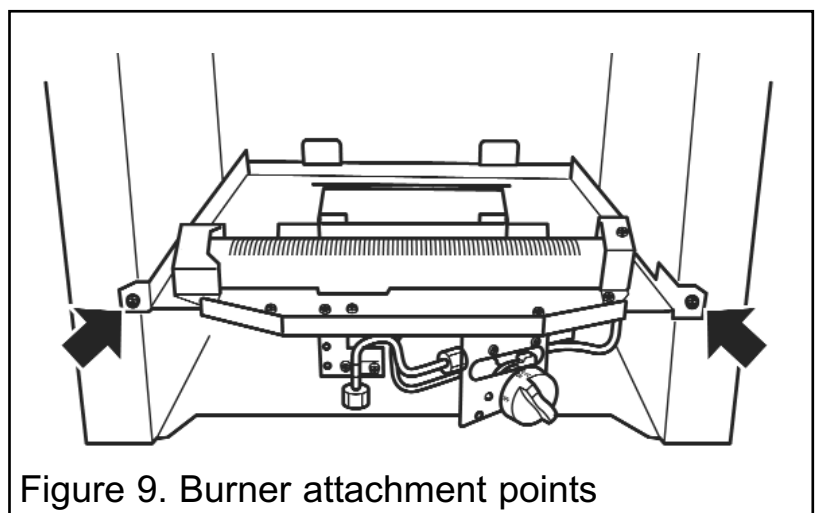

Figure 9. Burner attachment points
1. Detach the burner unit from the hotbox by removing two screws (See figure 9). Lift the burner unit clear.